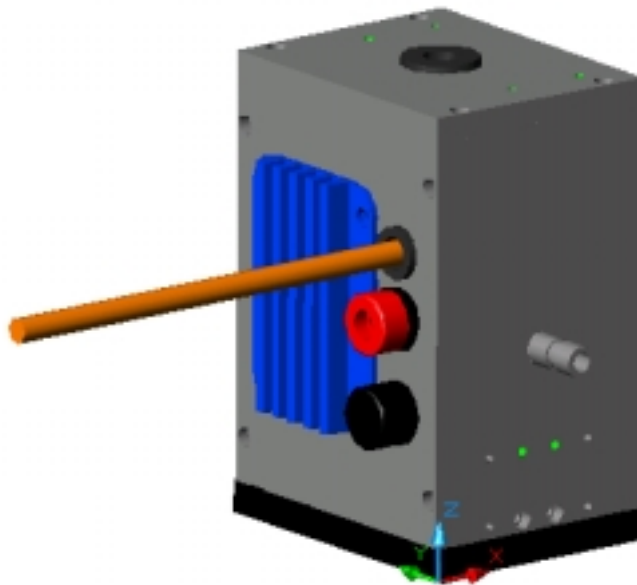

Figure 40. Upper temperature shield attached to chassis.
**STEP 20:** Attach the upper temperature shield to the chassis with four 3/8" screws (see figure 40). The four threaded holes should be on the opposite side from the SMA cable.